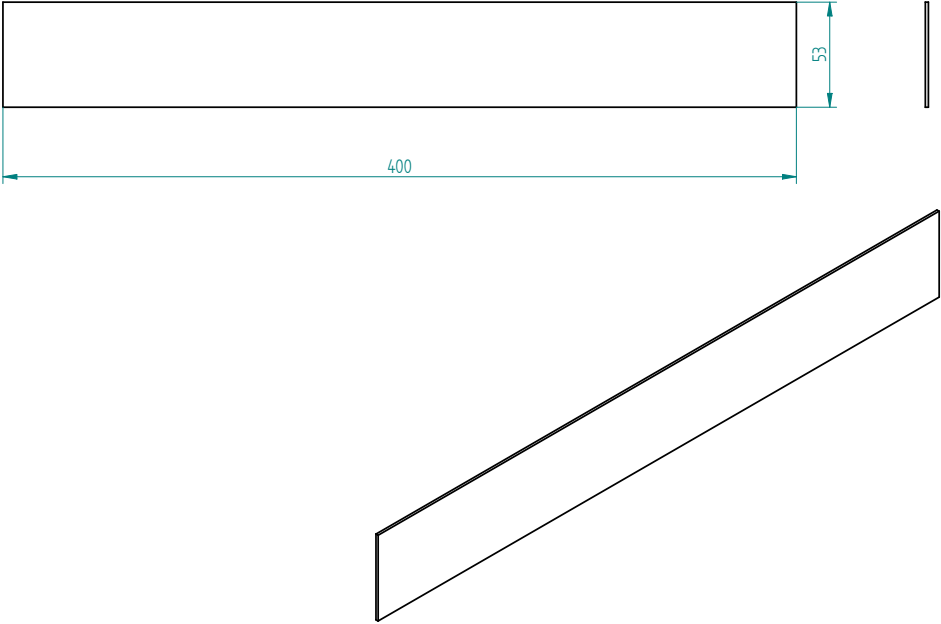

Figure 3.3: Shaped part : **sandpaper** for **perpendicular** tool
**Drawing** See figure 3.3, page 83